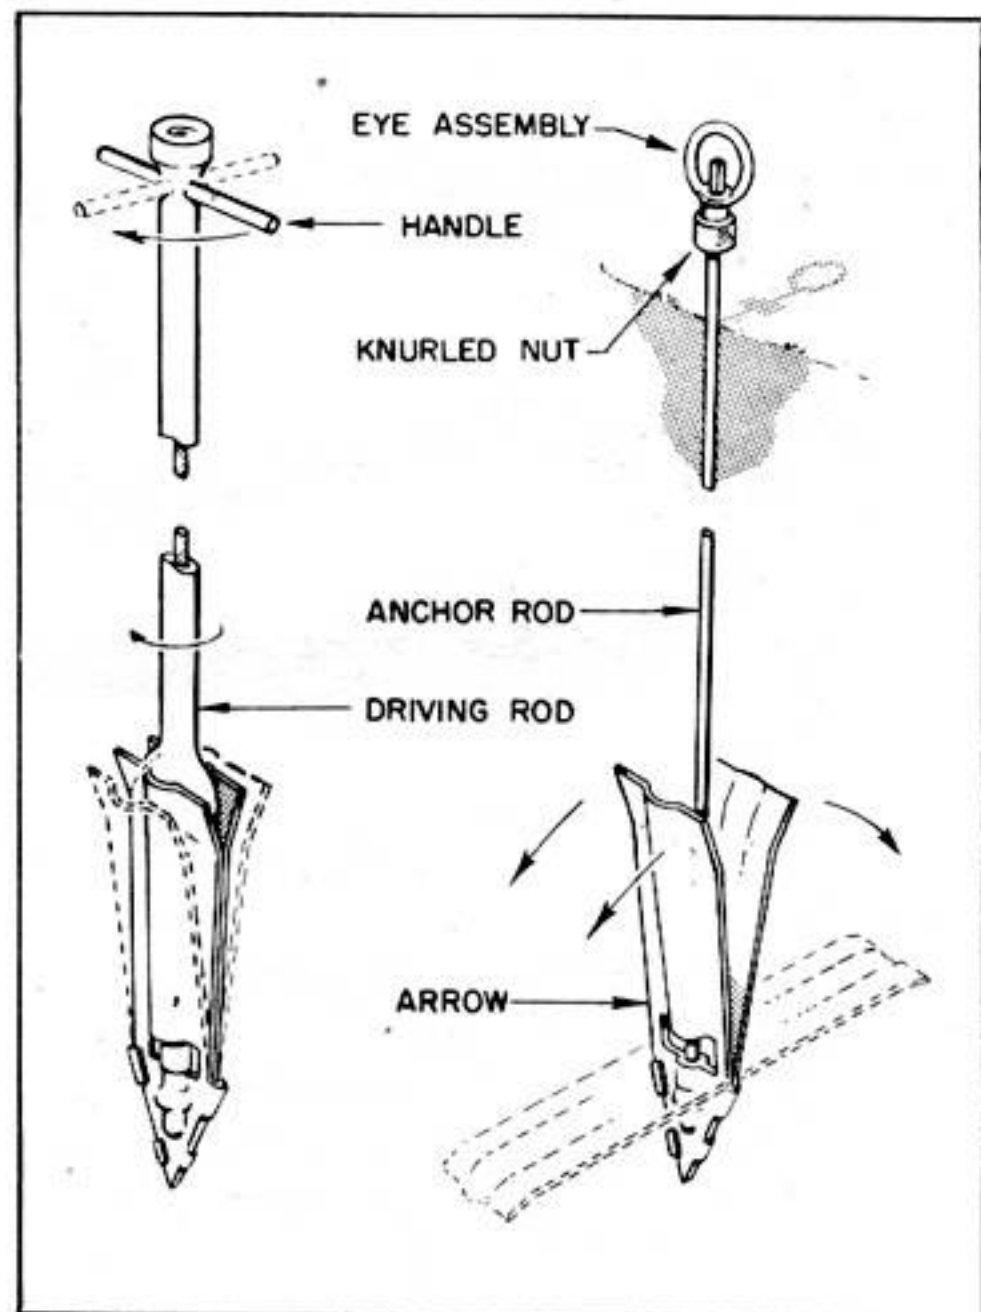

Figure 64—Mooring Stakes
(3) USE OF MOORING KIT. (See figure 64.)